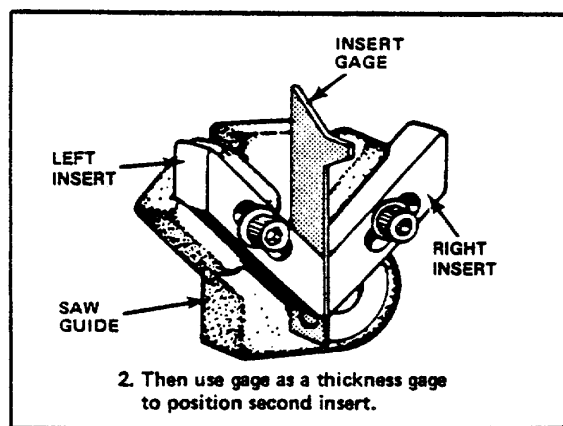

FIG. 8. POSITIONING LEFT INSERT. UPPER GUIDE BLOCK SHOWN.
- (3) Place left insert in slot. Tighten screw lightly. Place gage edgewise between both inserts. Lower insert until it rests against gage. Tighten screw. See Fig. 8.
- (1) Open band wheel doors. Relax band tension. Remove post band guard. Loosen left saw guide insert. See Fig. 8.
- (2) Unlock saw slot bar located below table front edge. Move bar away from saw slot.
- (3) Place band carefully over wheels and between saw guide inserts. Band center should center on wheel's crown face. Apply proper band tension. Tighten saw guide inserts.
- (4) Move table slot bar back into position and lock. Re-install post band guard and close wheel doors.